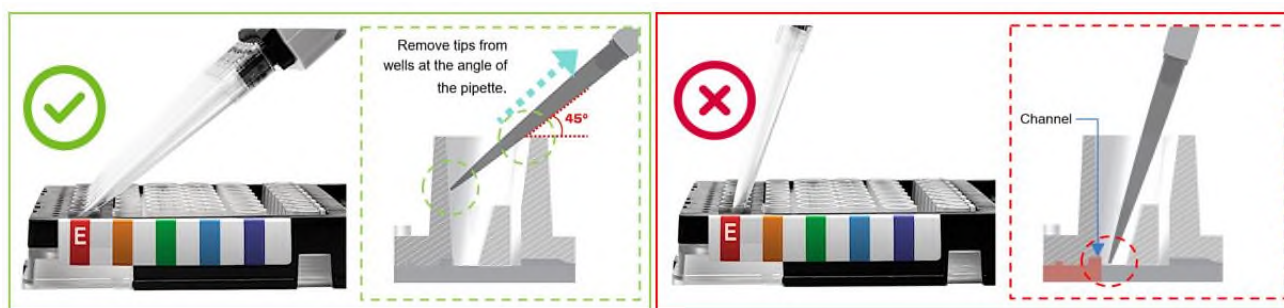
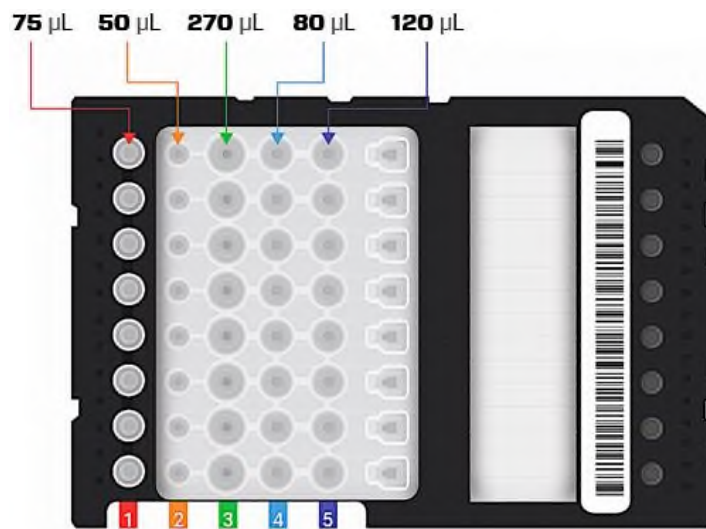

Figure 4. Proper (left) and improper (right) pipetting techniques for fluidic chip buffer wells.
Figure 5. G2 FFPE To RNA purification buffer dispense volumes.
5. Using a P200 multichannel pipette and the proper pipetting technique shown in **Figure 4**, add the appropriate volume of each purification buffer as shown on the screen (also see **Figure 5**), working left to right (1 to 5), to the fluidic chip.